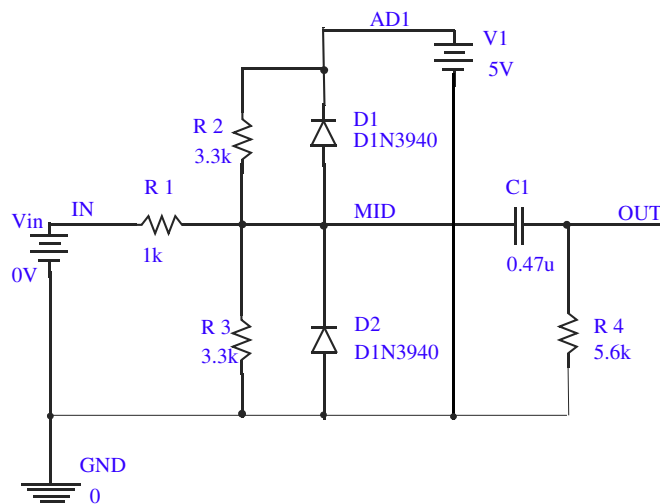

Figure 2-5 Diode clipper design
This section describes how to use Project Manager to create a design project and then use Design Entry HDL to create the simple diode clipper design shown in Figure 2-5.
5. Move the pointer to the correct position on the schematic page (see Figure 2-5 on page 85) and click to place the first part.
- resistors (R)
- capacitor (C)
5. Select `0` in the *Cells* list box and place the ground part (`0`) as shown in Figure 2-5 on page 85.
6. Continue connecting parts until the design is wired as shown in Figure 2-5 on page 85.